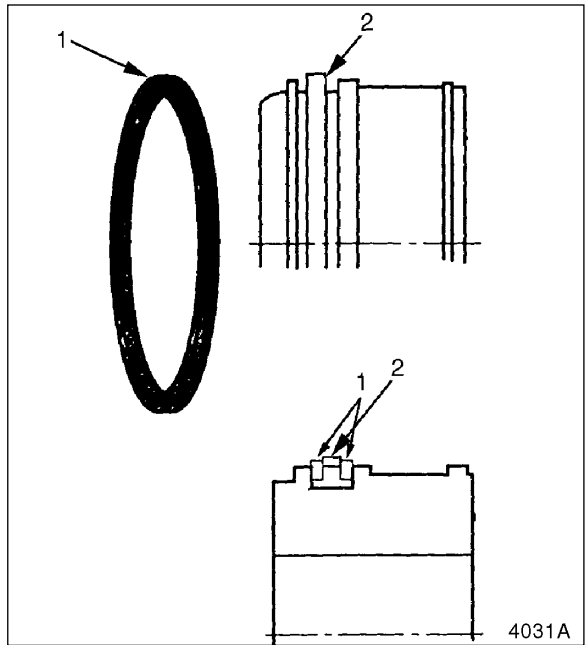

Figure 29
15. Install two backup rings, (1, Figure 29). One ring fits on either side of slipper seal (2).